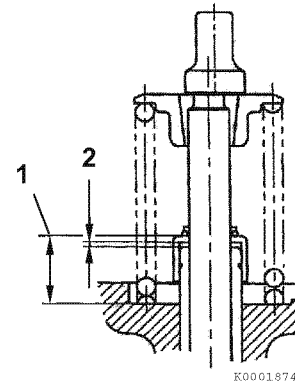

Figure 6-19
2. Measure the distance (1, **Figure 6-19**) from the machined spring seat surface of the cylinder head to the top of the valve stem seal to ensure there is proper clearance (2, **Figure 6-19**) between the guide and the seal. See *Intake/Exhaust valves, guides and seals* on page 6-5 for valve seal installed height specifications.